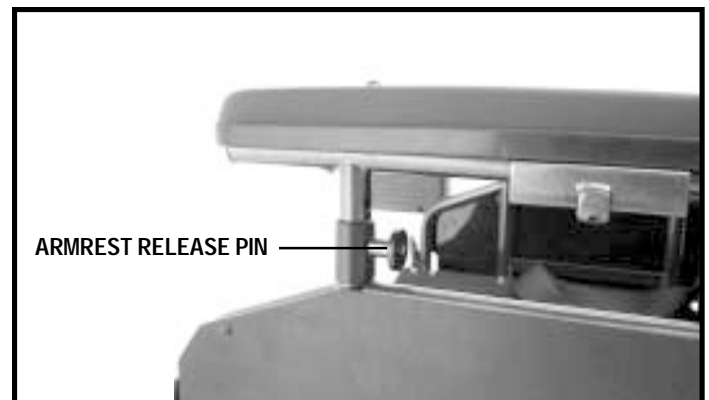

Figure 27. Armrest Height Adjustment
1. Pull out the armrest release pin to release the armrest. See figure 27.